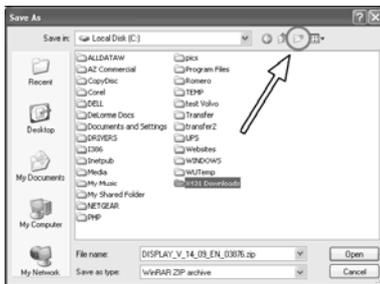

Figure 3-20
9. The folders contained in your local drive are displayed in the main window. Click the Create New Folder icon (as shown circled below). A New Folder will appear in the main window underneath the other folders (see figure 3-20). Type X431MASTER Downloads and press ENTER.